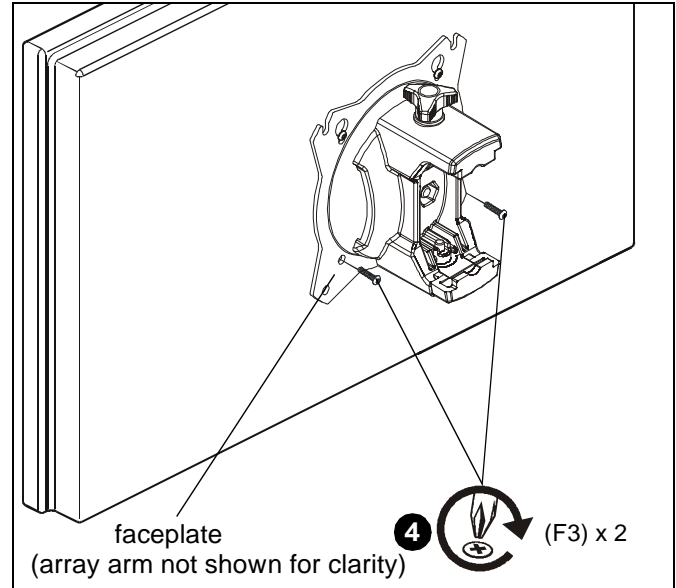

Figure 9
4. Using Phillips screwdriver, install two M4x12 mm Phillips pan machine screws (F3) through the *lower* mounting holes on faceplate into the display. (See Figure 9)